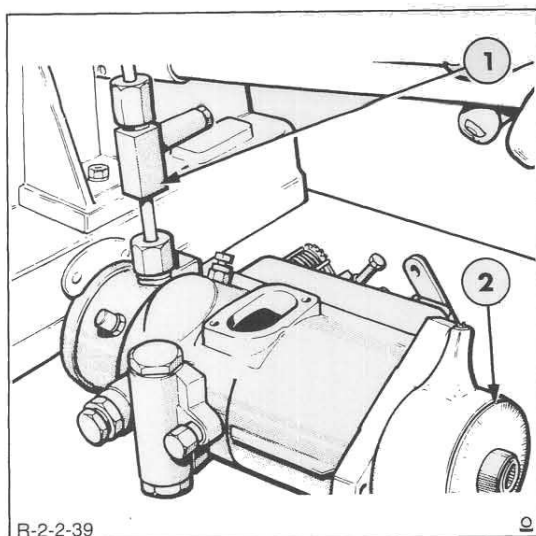

Figure 43
- (iv) Turn the gauge and hub in the direction of pump rotation, the fuel pressure will cause the plungers and rollers to move to their outermost position. When the rollers contact the cam lobes, resistance to further rotation is encountered, this being the setting point for the pump, Figure 43.